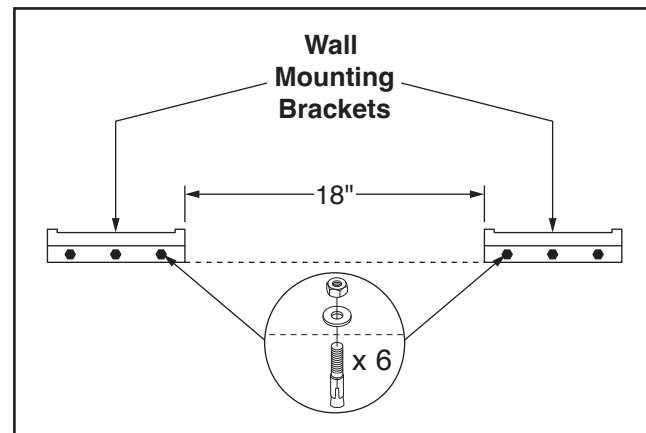

Figure 22. Wall mounting brackets mounted to concrete wall.
2. Place (2) wall mounting brackets against wall at intended mounting location, then use holes to mark (6) mounting locations. Brackets should be level, with 18" between them (see **Figure 22**).
3. Mount (6) $\frac{5}{16}$ " x $2\frac{3}{4}$ " concrete anchor studs to wall at mounting locations (see **Figure 22**).
4. Secure wall mounting brackets to anchor studs with (6) $\frac{5}{16}$ " hex nuts, and (6) $\frac{5}{16}$ " flat washers (see **Figure 22**).